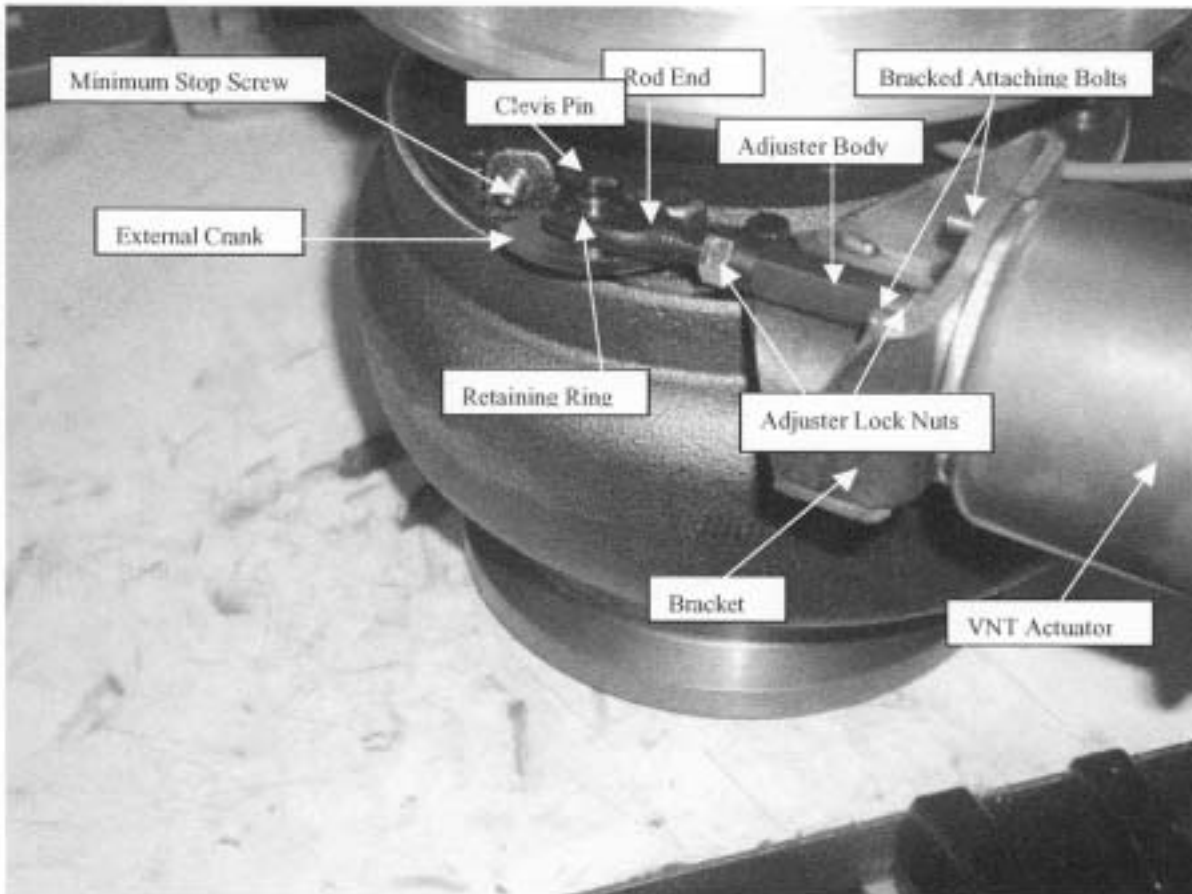

Figure 1
VNT Actuator Removal (Refer to Figure 1)
7. Rotate the **adjuster body** (see Figure 1) until a 0.004 inch ± 0.001 ($0.10 \pm .0250$ mm) gap is achieved between the stop screw and clevis. Without allowing the adjuster body to rotate, tighten the lock nuts to 6.2 – 7.9 N-m (55 – 70 in-lbs).